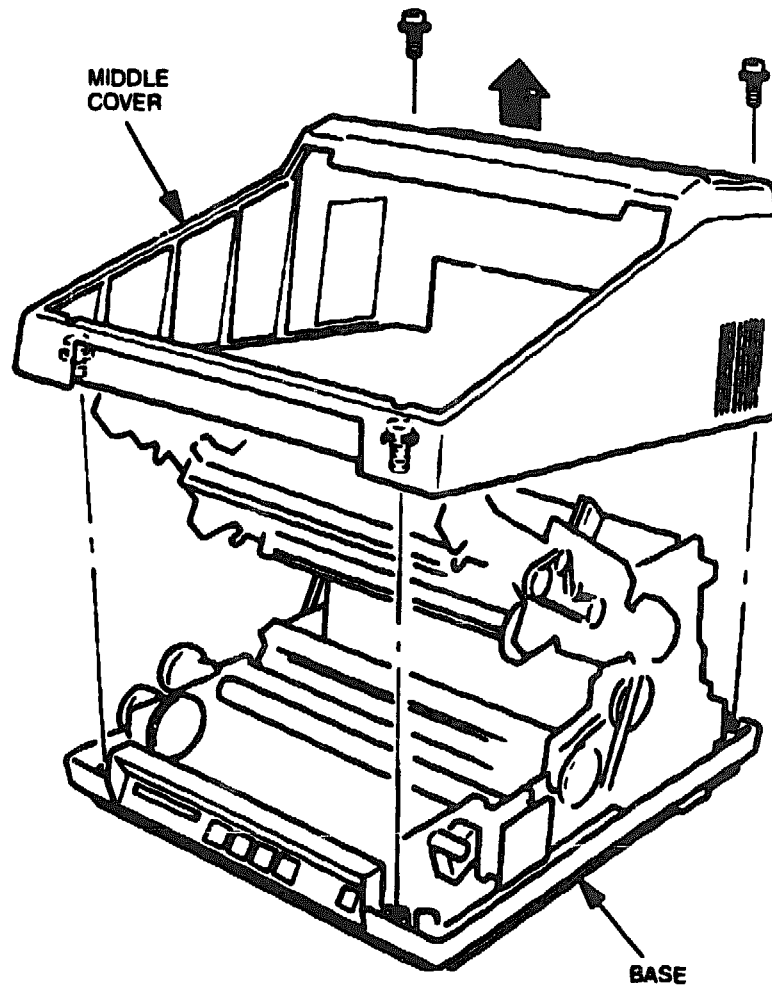

Figure 6-15 Middle Cover Removal
2. Loosen the two screws on the front of the base (see Figure 6-15) and remove the two screws on the rear corners of the base. Then carefully lift the middle cover up and off.